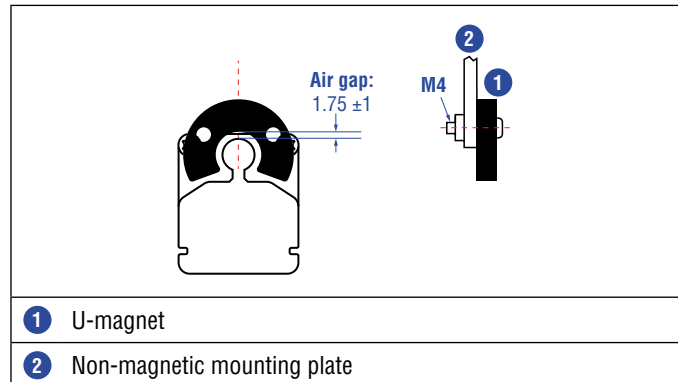
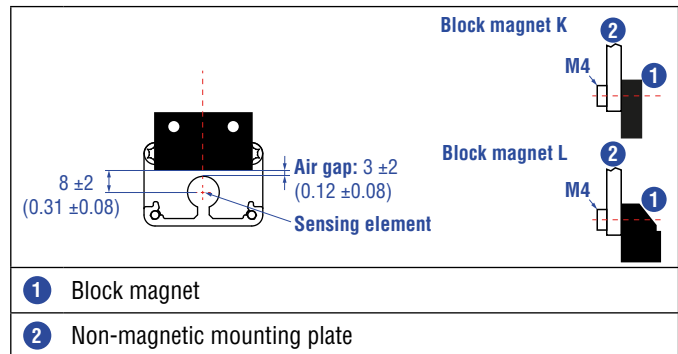

Fig. 16: Mounting of U-magnet (part no. 251 416-2), example of EP sensor
Fig. 17: Mounting of block magnet K (part no. 251 298-2) and block magnet L (part no. 403 448), example of EL sensor
- Mount block magnets centrally over the sensor rod or the sensor profile. The maximum permissible air gap must not be exceeded (Fig. 16, Fig. 17).